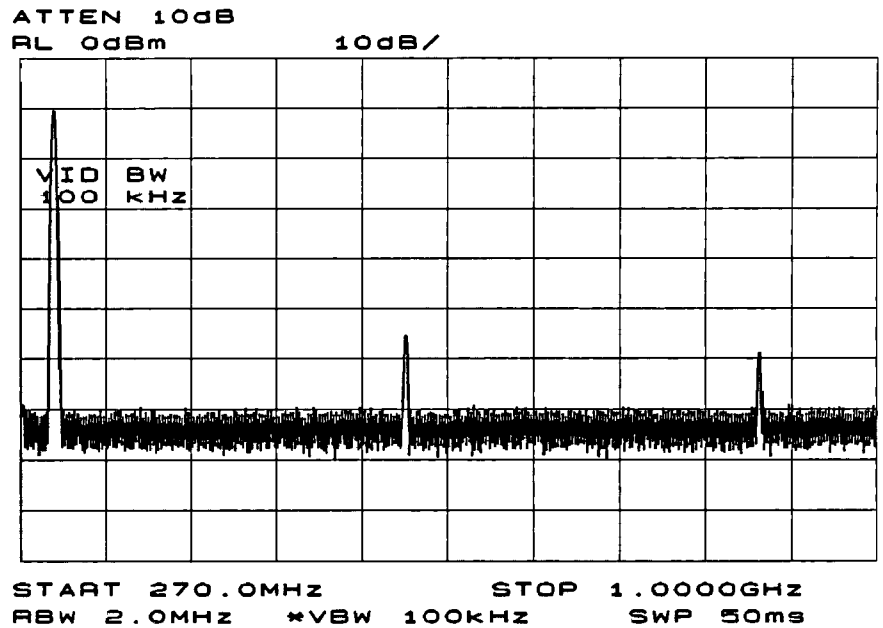

Figure 3-10. Input Signal and Harmonics
1. For measuring the 300 MHz fundamental and its first two harmonics, set the start frequency to 270 MHz and the stop frequency to 1000 MHz. This displays the fundamental frequency and the second and third harmonics. To improve visibility, smooth the video bandwidth: press **BW** and **VIDEO BW**; then use the **STEP** **[]** key as desired. See Figure 3-10.